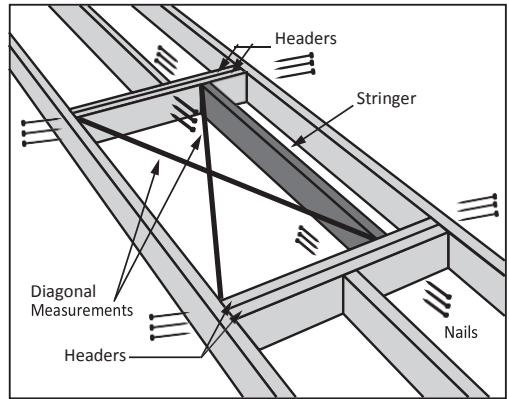

FIGURE 19
**(Figure 19)**
- Locate double headers at each end of opening and secure with (3) 16d nails into each end of the headers.
- Secure using (3) 4" nails into each end of the stringer.